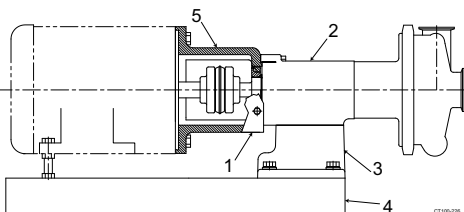

Figure 3 - Style B
The style B arrangement includes the bearing housing (2), motor adapter (5), coupling cover, coupling (1), pedestal stand (3), and base (4), for use with NEMA C-Face motors with feet. The pump and motor are mounted and supported independently. (Figure 3).